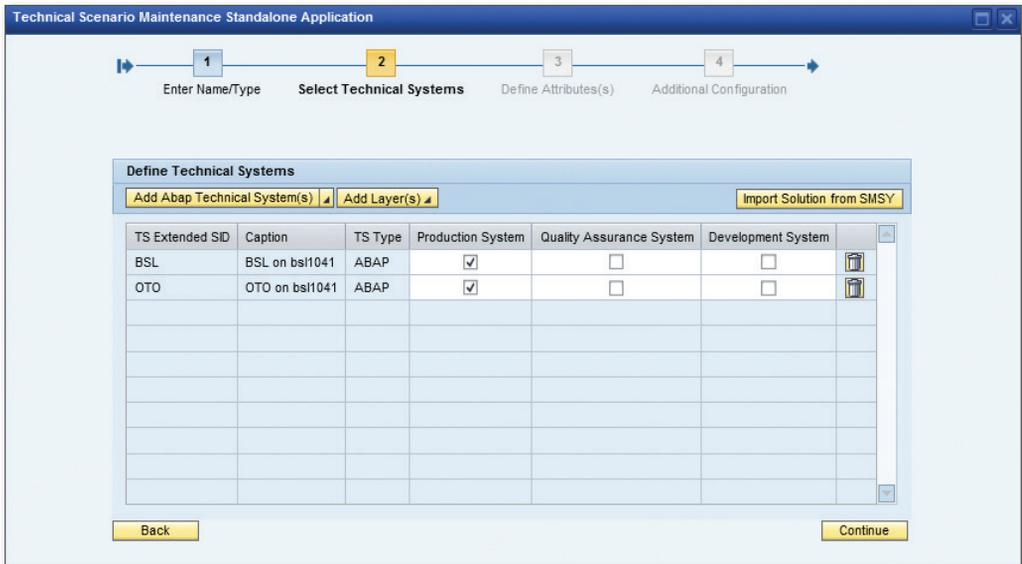

Figure 9.17 Technical Scenarios Wizard—Start Screen
The technical scenarios are maintained using a wizard, which can be launched via TECHNICAL SCENARIO WIZARD in the menu of the DATA VOLUME MANAGEMENT work center under CONFIGURATION. The start screen lists all configured scenarios. The buttons above the table allow you to create, maintain, or delete technical scenarios (see Figure 9.17).
- Finally, save your settings and check the result in the overview (see Figure 9.17). All specified ABAP systems should be visible in the INVOLVED TECH. ELEMENTS column.